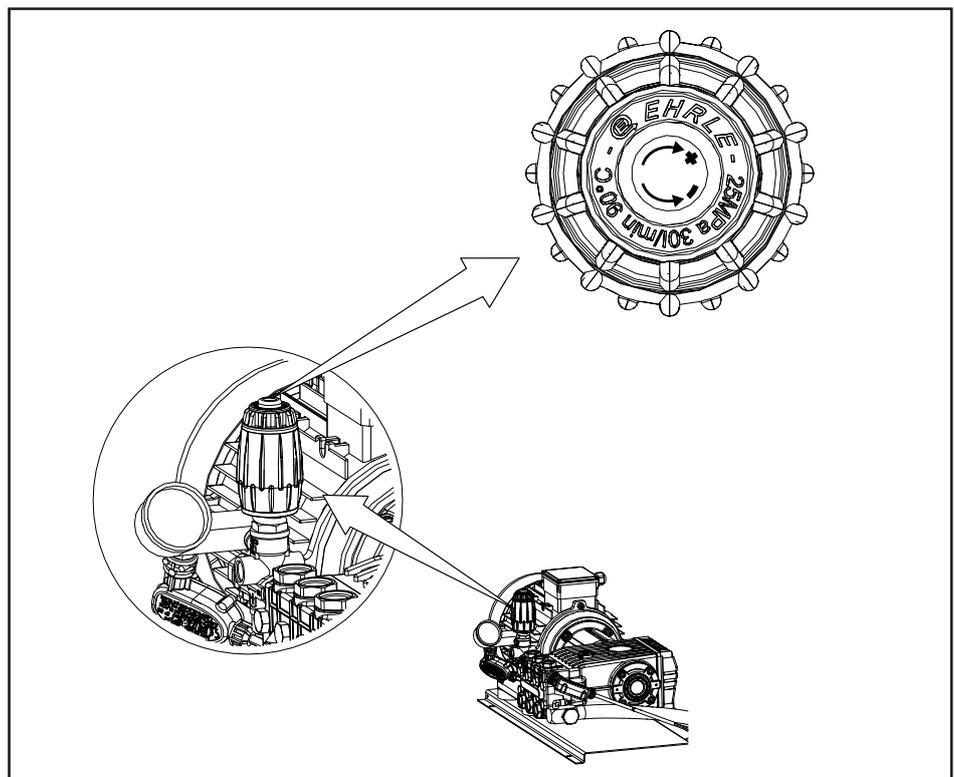

Fig. 6 - 4 Adjustment of the operating pressure at the unloader valve
After activation of the trigger gun the emerging water jet exerts a jerky recoil force (see also Fig. 6 - 5).
- ▶ Set the unloader valve (2, Fig. 6 - 3) inside the cabinet to the desired operating pressure. The operating pressure can be read off the manometer (3, Fig. 6 - 3) while the trigger gun is open. Turning the unloader valve clockwise increases the operating pressure and increases the flow rate (see also Fig. 6 - 4). Turning it counterclockwise causes a low operating pressure and a lower flow rate.